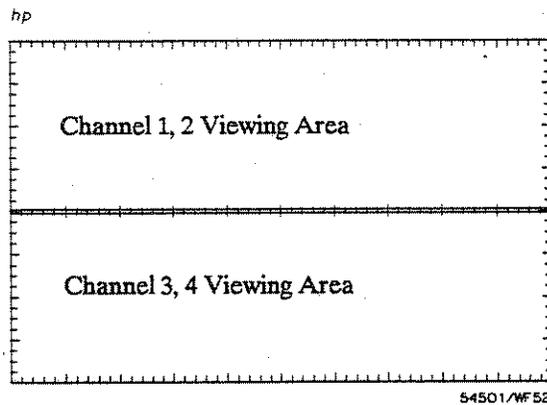

Figure 7-2. Dual Screen Display
- 2: the display area is divided into two screens. Channels 1 and 2 will be displayed in the top screen and channels 3 and 4 will be displayed in the bottom screen (See Figure 7-2).